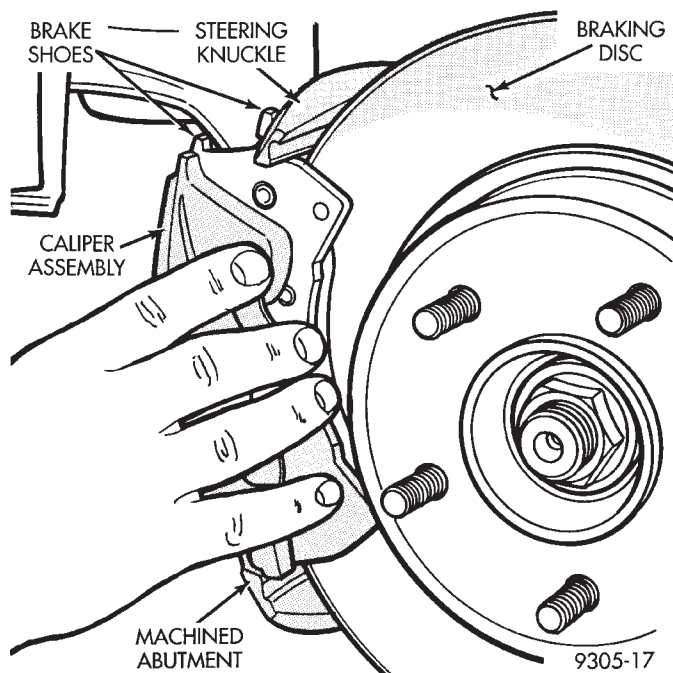
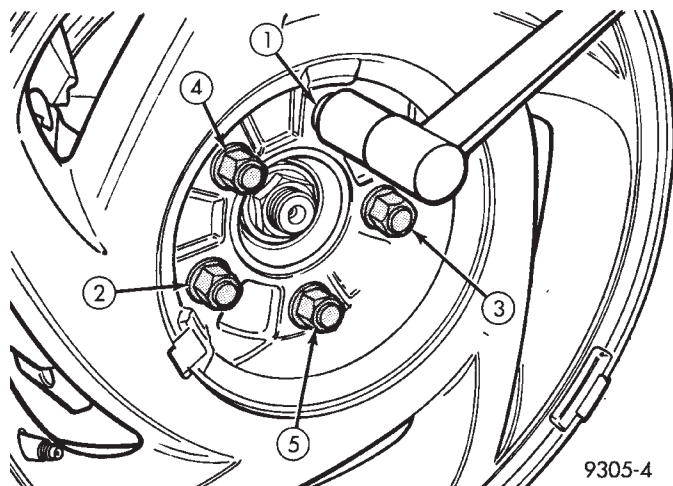

Fig. 10 Installing Caliper Assembly On Steering Knuckle And Rotor
Fig. 11 Tightening Wheel Nuts
(7) Carefully position caliper and brake shoe assemblies over braking disc (rotor) using the reversed required removal procedure (Fig. 10). Make sure that caliper guide pin bolts, bushings and sleeves are clear of the steering knuckle bosses.
(8) Install the caliper guide pin bolts and tighten to 18 to 20 N•m (192 in. lbs.). **Extreme caution should be taken not to cross the threads of the caliper guide pin bolts.**
(9) Install the wheel and tire assembly.
(10) Tighten the wheel mounting stud nuts in proper sequence (Fig. 11) until all nuts are torqued to half specification. Then repeat the tightening sequence to the full specified torque of 129 N•m (95 ft. lbs.).
(11) Remove jackstands or lower hoist. **Before moving vehicle, pump the brake pedal several times to insure the vehicle has a firm brake pedal to adequately stop vehicle..**
(12) Road test the vehicle and make several stops to wear off any foreign material on the brakes and to seat the brake shoe linings.